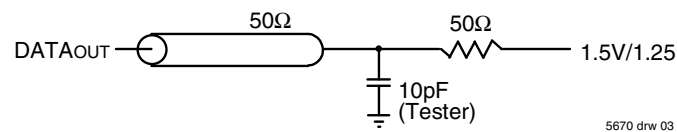

Figure 1. AC Output Test load.
Output Load	Figure 1
1. Transition is measured 0mV from Low or High-impedance voltage with Output Test Load (Figure 1).
7. This parameter is guaranteed by device characterization, but is not production tested. Transition is measured 0mV from steady state with the Output Test Load (Figure 1).
5. This parameter is guaranteed by device characterization, but is not production tested. Transition is measured 0mV from steady state with the Output Test Load (Figure 1).